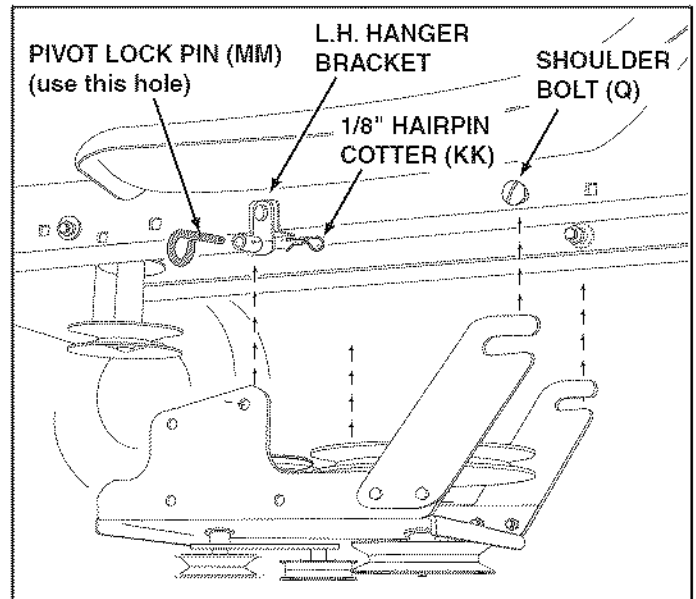

FIGURE 12
STEP 12: (SEE FIGURE 12)
- Attach the clutch/idler assembly to the tractor frame. Hook the notched suspension arms onto the two shoulder bolts (Q) assembled to the outside of the tractor frame. Lift the front of the assembly and attach it to the R.H. and L.H. hanger brackets using two pivot lock pins (MM) and 1/8" hairpin cotters (KK).